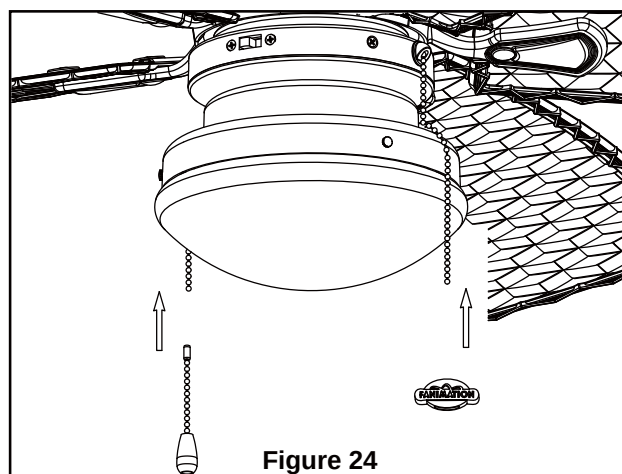

Figure 24
- ☐ 3. Install pull chains and fobs. (Figure 24)